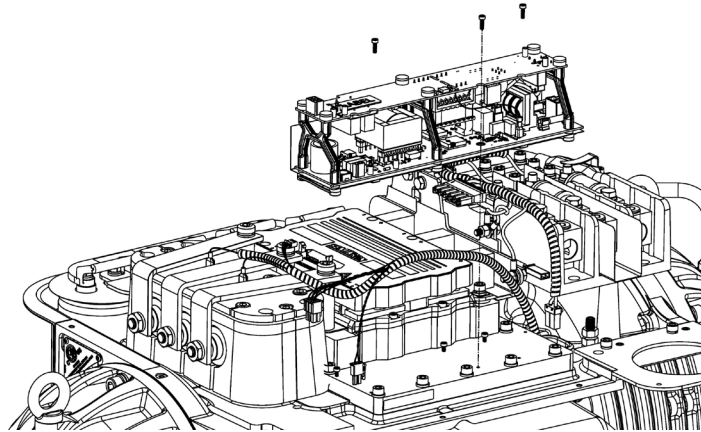

Figure 8 – Open Frame DC-DC Converter Removal
2. Loosen the fasteners that are located next to the Inverter. Refer to Figure 8 (Open Frame DC-DC Converter Removal) for this and the next two (2) steps.